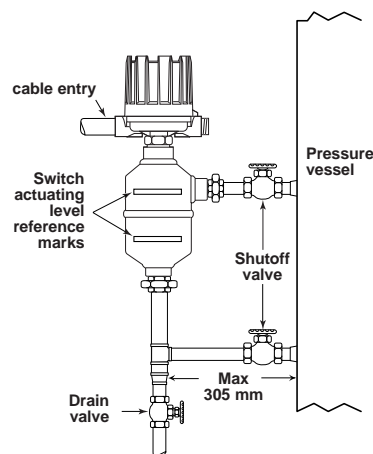

Figure 3
**Figure 3** shows a typical piping installation of a Magnetrol level switch to a pressure vessel. Reference mark on float chamber should be aligned to correspond with liquid level in vessel at which switch control is desired.